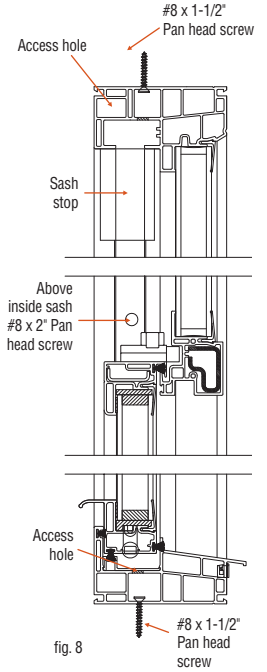

fig. 8
- a. Fasten the top of the Single-Hung behind the sash stops on each side using a #8 x 2-1/2" Phillips Pan head screw. Either slide the sash stops down or remove to insert screws. (**fig. 8**)
- e. To fasten the center of the window place a screw on each side of the window just above the inside sash. (**fig. 8**)